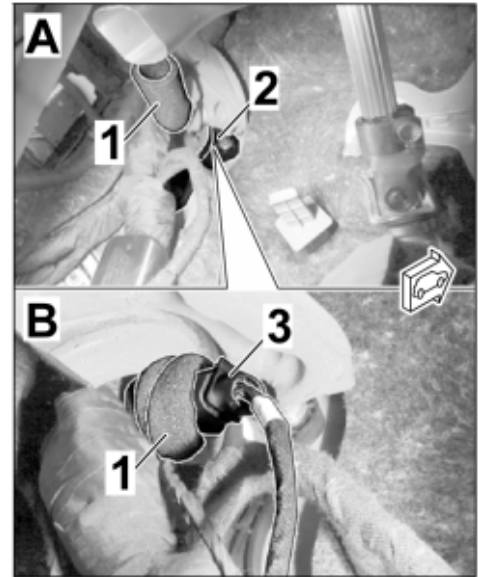

Figure 22 (similar)
- 3.1.1 Expose the connection point (preparation = socket connector, 6-pin) or plug connection in the passenger compartment of the vehicle, area of bulkhead grommet, A-pillar left. ⇒ *Figure 22 (similar) -A-*
- 3.1.3 Establish plug connection with wire harness for the exhaust flaps (6-pin). ⇒ *Figure 22 (similar) -B-*